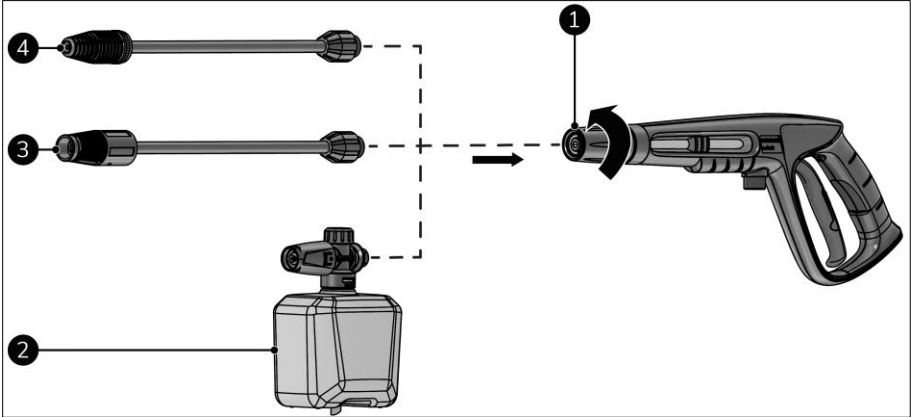

Figure 13
1. On the jet gun (Figure 13, pos. 1), screw on (tight) the:
- foam nozzle (Figure 13, pos. 2), or;
- adjustable nozzle (Figure 13, pos. 3), or;
- turbo nozzle (Figure 13, pos. 4).